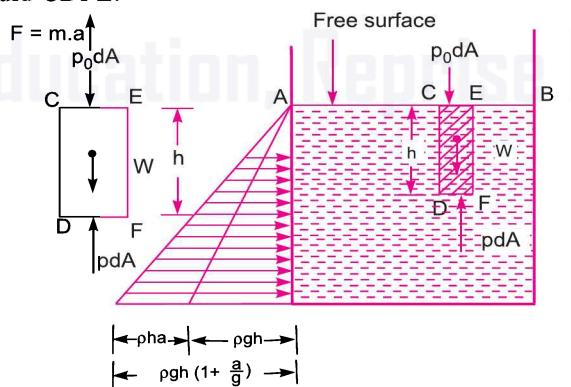

Fig. 3.49
**3.8.2 Liquid Container Subjected to Constant Vertical Acceleration.** Fig. 3.49 shows a tank containing a liquid and the tank is moving vertically upward with a constant acceleration. The liquid in the tank will be subjected to the same vertical acceleration. To obtain the expression for the pressure at any point in the liquid mass subjected to vertical upward acceleration, consider a vertical elementary prism of liquid CDFE.
Fig. 3.49 shows the variation of pressure for the liquid mass subjected to a constant vertical upward acceleration.